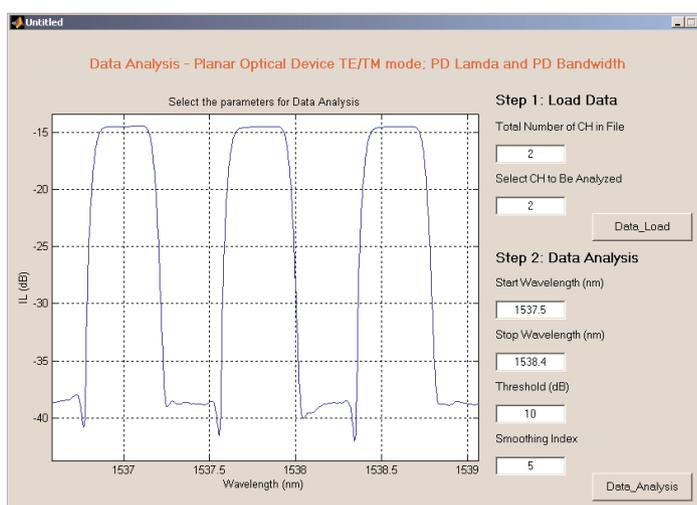

Figure 11. Zoom the analyzed area and input the data analysis parameters
After the data is loaded, use the left mouse button to zoom the area to be analyzed as shown in figure 11. Type the start and stop wavelengths for analysis. Select the IL threshold used for calculating the central wavelength (CW) and bandwidth (BW). Select the smoothing index used for noise reduction. As previously described, the definition of smoothing index is the same as the SWS application software. Click the “Data\_Analysis” button. Again, it takes a few seconds to complete the calculation, depending on the amount of data saved in the .ppp file.